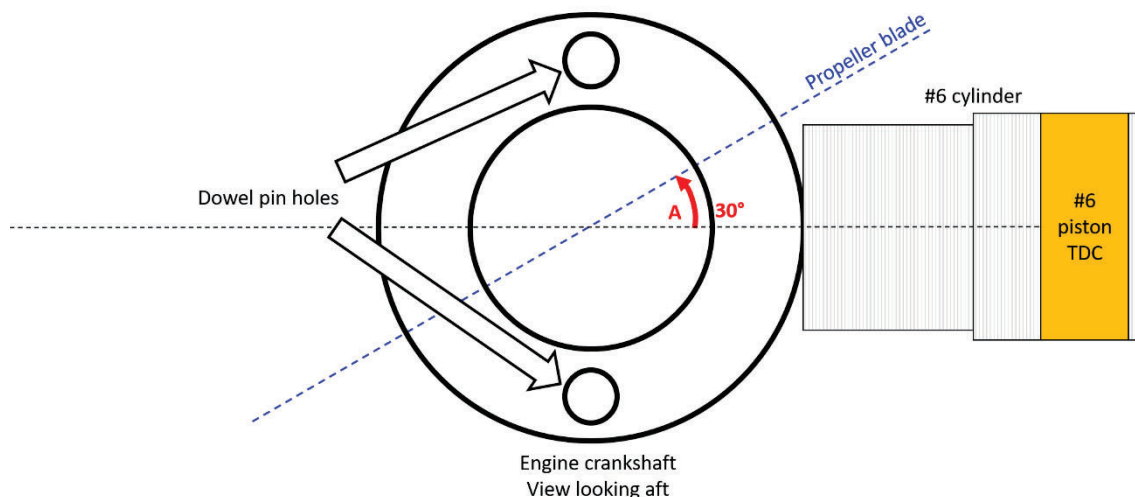

Figure 1: Propeller clocking diagram
1. Prior to removing the original propeller, rotate the engine crankshaft to extend the #6 piston to the top-dead-center (TDC) position. This will assist the installer with proper clocking of the STC propeller to minimize cabin vibration. With the crankshaft in this position, the clocking dowel pin holes should be located at the 12 o'clock and 6 o'clock position. See Figure 1 for a diagram.
4. Install new propeller and spinner dome on aircraft in accordance with Hartzell Owner's Manual number 115N. Follow installation instructions for "Installation of "F" Flange Propellers" in Manual 115N. Also reference the Cessna service manual section appropriate to the aircraft S/N and the configuration being modified. As mentioned in Step 1, the #6 cylinder should be in the TDC position. Install the STC propeller so that the propeller blades form approximately a **30° angle (angle "A")** with a horizontal reference line. See Figure 1 for a diagram.